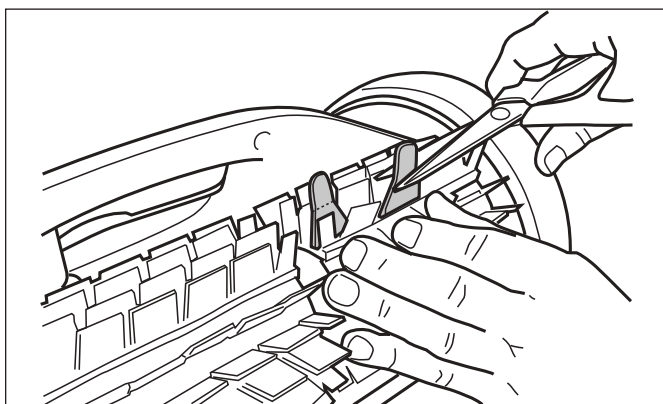

Figure 34. Cut Tabs
5. Use a pair of scissors to cut the tabs 3/4 inch from the heel so that they are no higher than the spikes as shown in Figure 34.